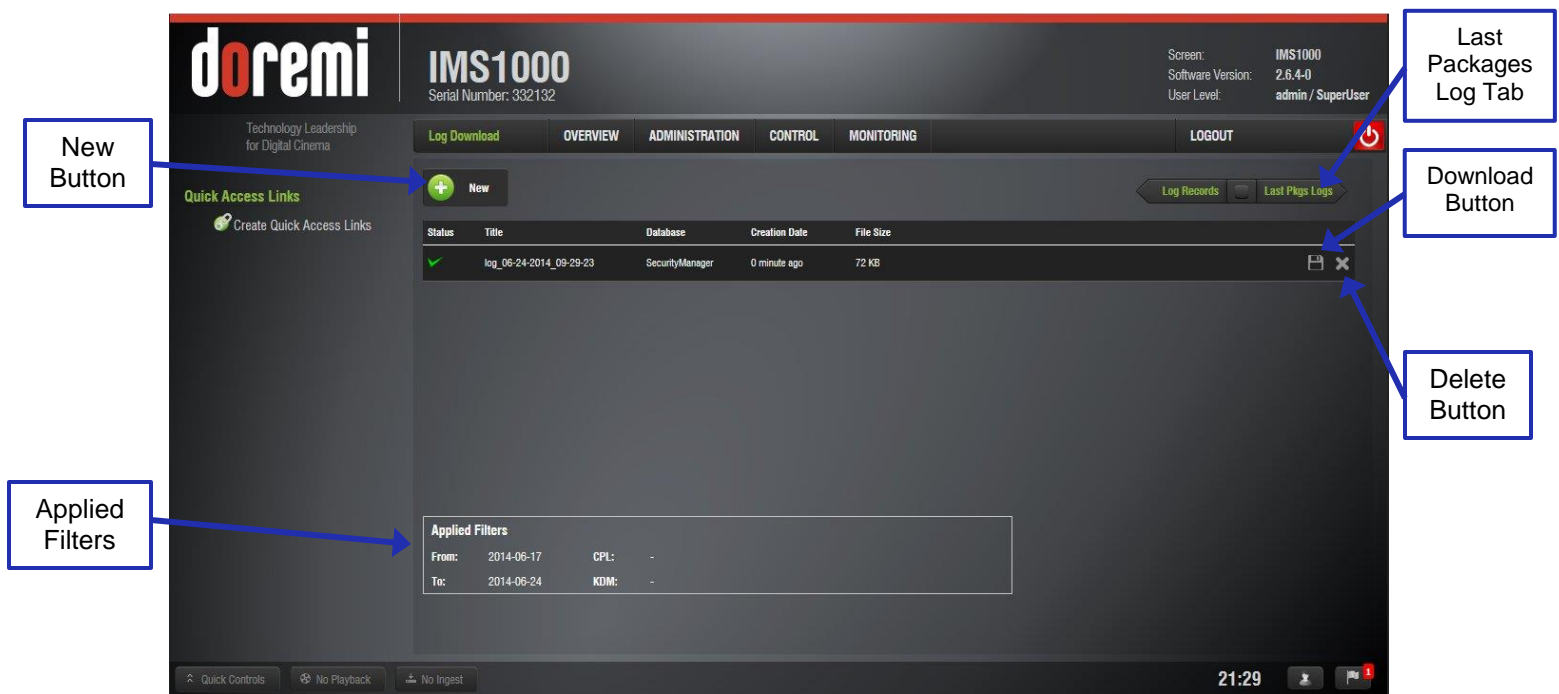

Figure 330: Log Download
- Click on the New button (Figure 330). Input the correct password, if necessary. The New Log window will appear (Figure 331).
- To download the log, highlight the log with the mouse and click on the Download icon that appears (Figure 330).
To delete a log, highlight the log and click on the X that appears on the right (Figure 330).
Highlighting a log will also reveal the applied filters for the log in the bottom of the screen (Figure 330).
To access the Last Packages Logs tab, click on the green arrow on the right hand side of the GUI in the Log Records or Log Download tabs (Figure 330).